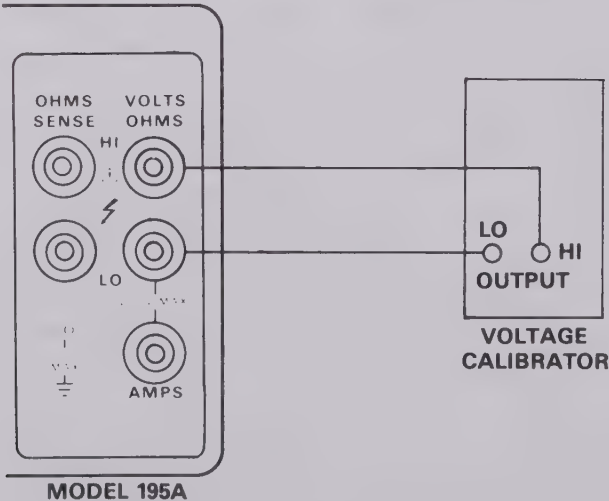

Figure 7-2. Voltage Calibration Connections
- 1. Select the DC volts function and connect the calibration source to the instrument as shown in Figure 7-2.
1. Connect the calibrator to the instrument as shown in Figure 7-2. Set the calibrator frequency to 1kHz.